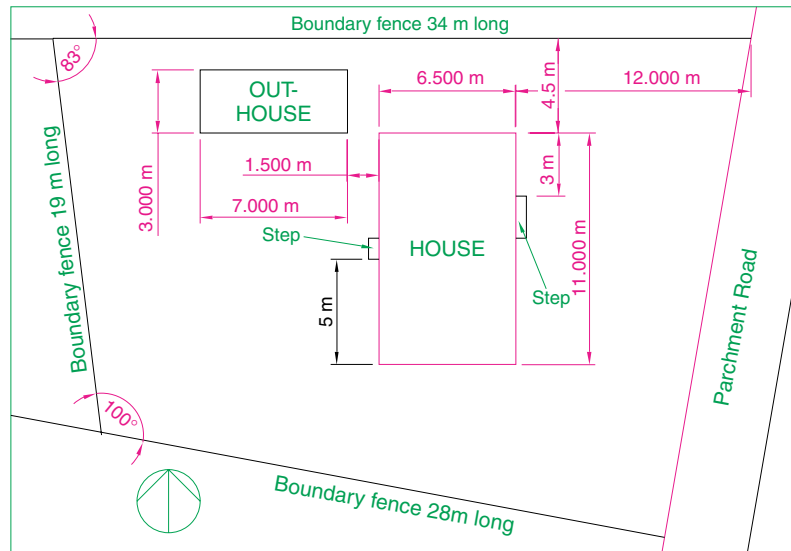

Fig. 12.10 Exercise 2
2. Fig. 12.10 is a site plan of a two-storey house to be built on a building plot. Design and construct to a scale 1:50, a suggested pair of floor layouts for the two floors of the proposed house.